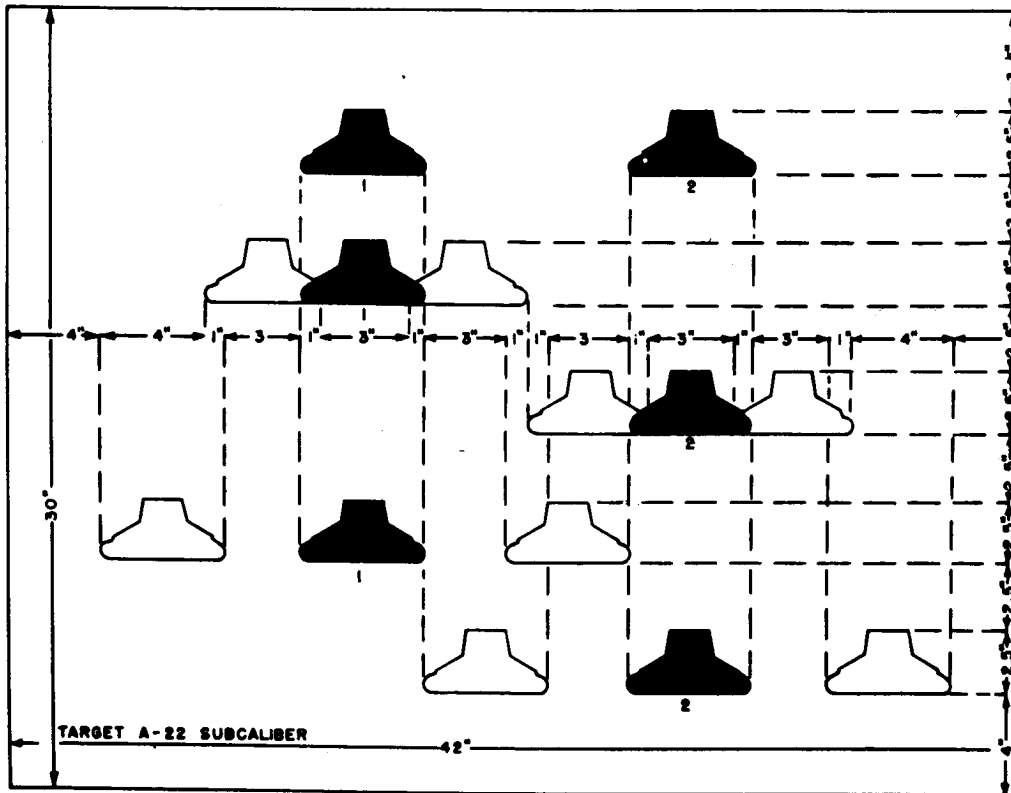

Figure 35. Moving target 25-meter subcaliber firing.
(1) Instructions for firing table II.
- (a) The standard A-22 subcaliber target is used in firing this table (fig. 35). It may be modified by painting over the scoring spaces. A scoring template is then required.